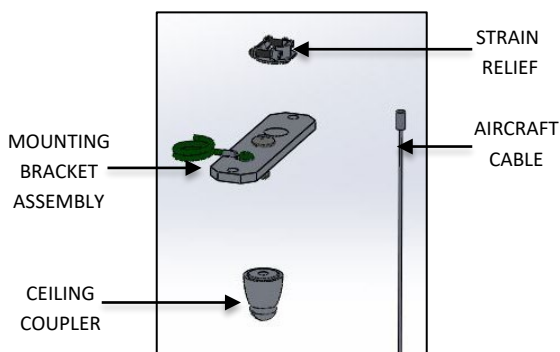
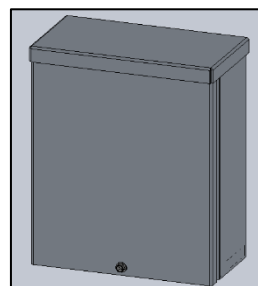

FIG. 5 - MOUNTING KIT
FIG. 6 - REMOTE DRIVER
- b. MOUNTING KIT (as shown in FIG. 5)
- iii. ONE (1) AIRCRAFT CABLE
- iv. ONE (1) CEILING COUPLER (CC)
4. REMOTE DRIVER BOX WITH DRIVER INSTALLED (as shown in FIG. 6)